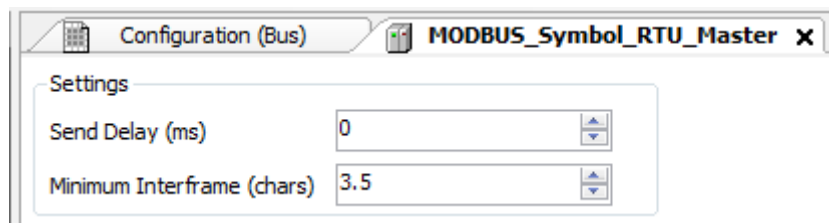

Figure 61: MODBUS RTU Master Configuration Screen
- Configure the general parameters of the MODBUS Master protocol, like: transmission delay times and minimum interframe as in Figure 61.